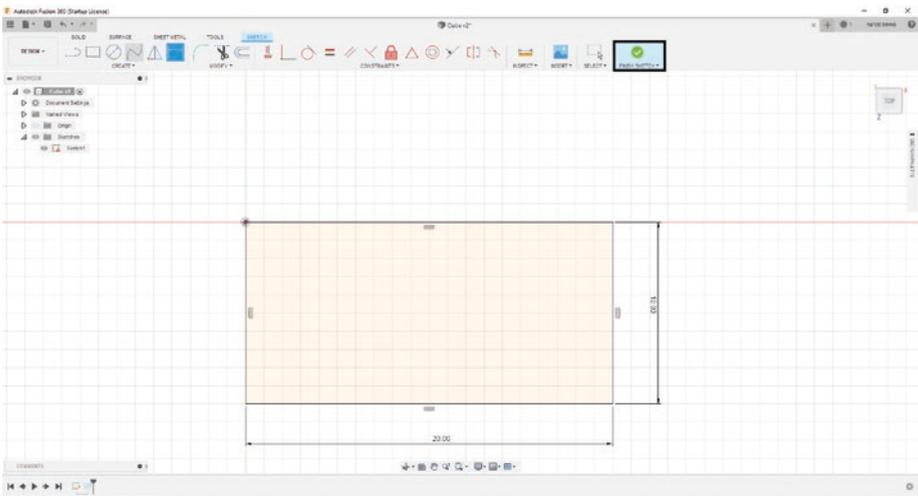

Figure 3-56. Click the “FINISH SKETCH” button
5. Click the “FINISH SKETCH” button. See Figure 3-56.